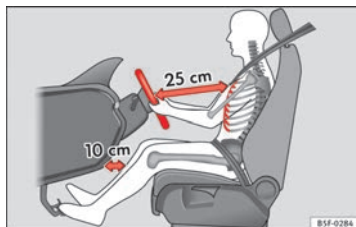

Fig. 1 The proper distance between driver and steering wheel
- Adjust the steering wheel so that there is a distance of at least 25 cm between the steering wheel and the centre of your chest ⇒ Fig. 1.
- Adjust the driver seat so that there is at least 25 cm distance between the centre of the chest and the centre of the steering wheel ⇒ Fig. 1. If distance is less than 25 cm, the airbag system may not protect you properly.